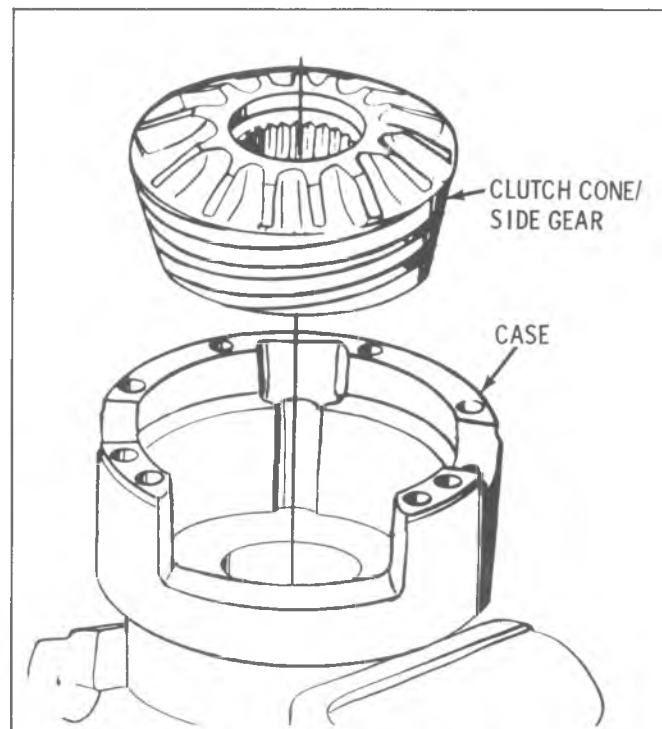

Fig. 4B-17D--Cone-Gear Position
1. Install proper cone/gear assembly, seating it into position in cap half of case. (Fig. 4B-17D).